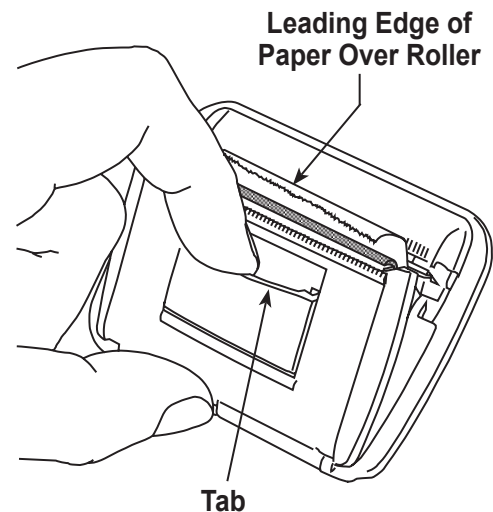

Figure 11
1. Remove the cover on the printer by pulling out on the tab as shown in Figure 11.